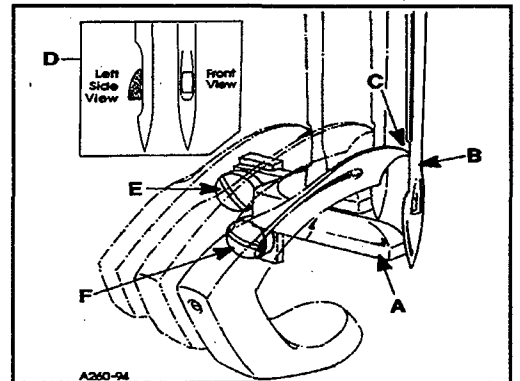
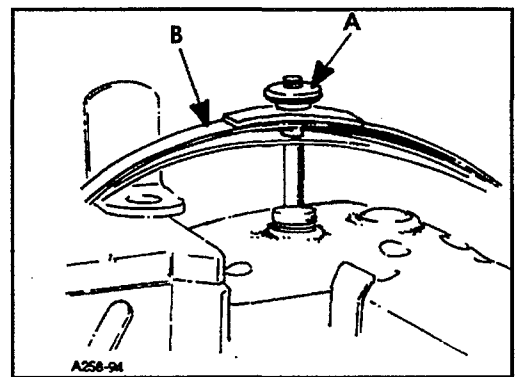
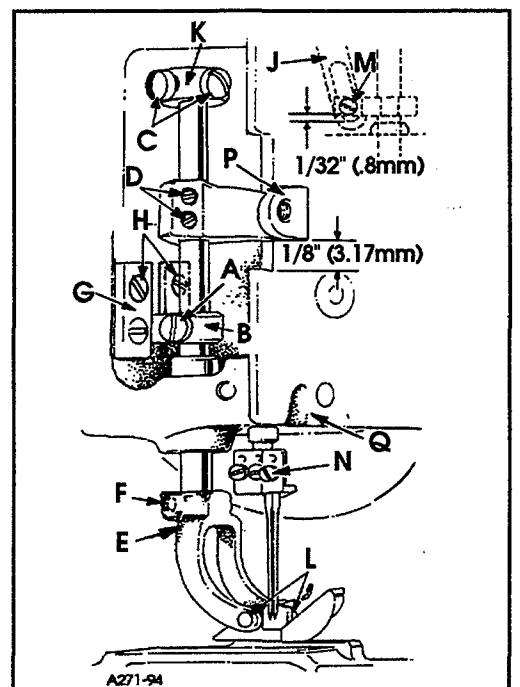

FIG. 13
FIG. 14
FIG. 15
Set the rear needle guard (A, Fig. 13) horizontally so that it barely contacts needles (B) when at its extreme forward position. If adjustment is necessary loosen screw (E) and move guard front to back as required. It should be set vertically as low as possible, yet have its guarding surface in contact with the needles until the points of the loopers (C), moving to the right, are even with the right side of the needles. If adjustment is necessary loosen screw (F) and move guard and holder up or down as required.
**NOTE:** When installing needle it should be parallel with the eye in line of feed. If adjustment is necessary, loosen screw (N, Fig. 15) in needle head and rotate needle to attain adjustment (D, Fig. 13).
Remove presser bar leaf spring (B, Fig. 14) and nut (A). Loosen screw (A, Fig. 15) on presser bar guide (B). Loosen screws (C) in upper collar and screws (D) in needle lever thread pull-off lever. Slide presser bar upward high enough to slip on presser foot yoke (E) with foot attached and tighten screw (F) on flat of presser bar. Position foot so that the needle holes in the foot line up with the holes in the throat plate. Tighten screw (A).
With foot properly aligned on throat plate and presser bar guide (B, Fig. 15) securely fastened to presser bar, adjust both guide plates (G) to attain above setting. Tighten four screws (H).
Reinstall presser bar leaf springs (B, Fig. 14) and nut (A), with presser foot resting on throat plate.
**NOTE:** There should be a minimum  $1/32"$  (0.8mm) clearance between screw (M, Fig. 15) and the bottom of the slot in link (J).
Regulate the pressure on the presser foot same as the upper feed roller by turning the presser spring regulating nut (A, Fig. 14) located on top of leaf type spring (B) at the rear of machine.
To remove just the presser foot, remove screws (L, Fig. 15) and replace foot, retighten screws (L).